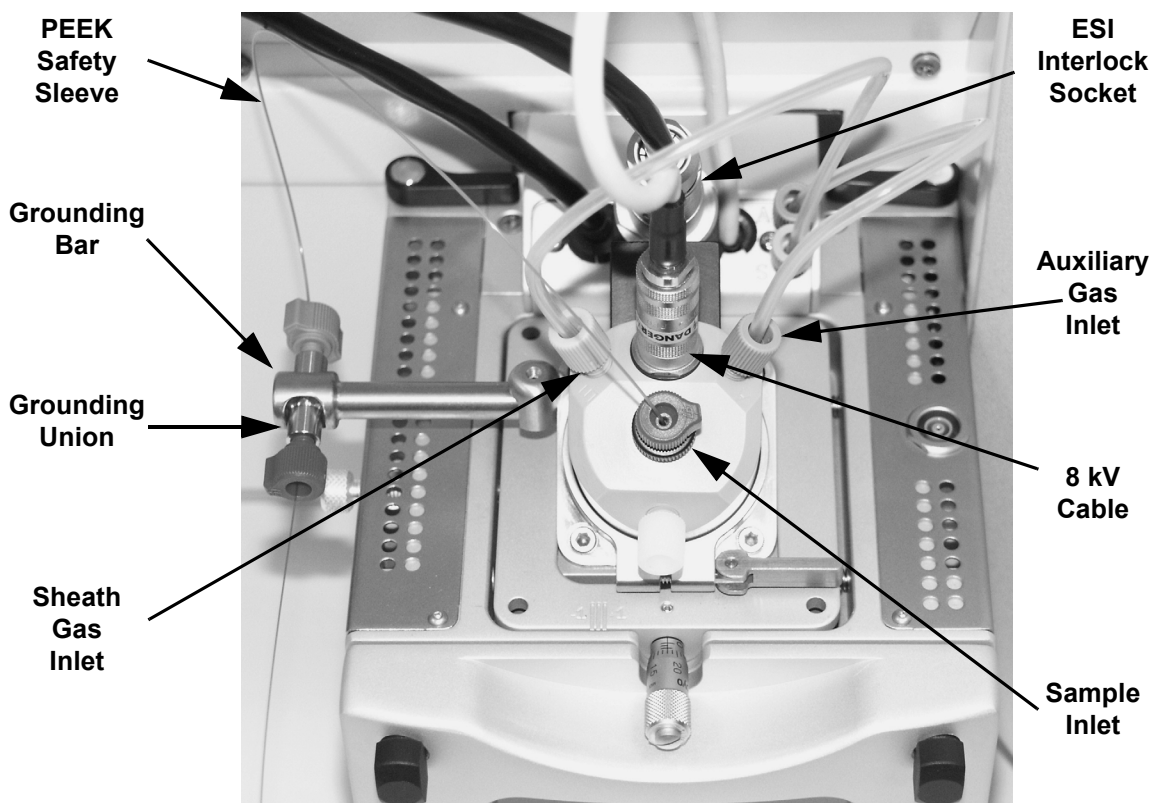

Figure 2-12. Ion Max ion source housing with ESI probe installed
7. Insert the stainless steel ZDV fitting (grounding union) into the grounding bar on the ion source housing. See Figure 2-12.
8. Connect the Sheath Gas fitting (blue) to the sheath gas inlet (S) on the probe manifold. See Figure 2-12.
9. Connect the AUX Gas fitting (green) to the auxiliary gas inlet (A) on the probe manifold. See Figure 2-12.